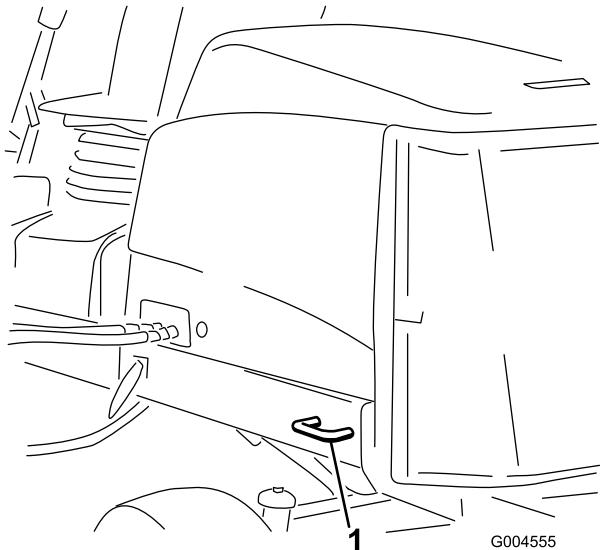

Figure 28
- Rear—each side of the machine on the rear frame (Figure 28).